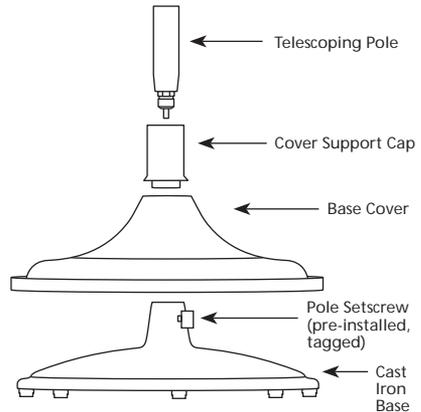

FIGURE 1
1. Slide the Cover Support Cap over the bottom of the Telescoping Pole. See Figure 1.
2. Insert the bottom of the Telescoping Pole through the Base Cover. See Figure 1.
4. Locate the Pole Setscrew (pre-installed, tagged) in the neck of the Cast Iron Base. See Figure 1.
5. Use an adjustable wrench to tighten the Pole Setscrew (pre-inserted, tagged) until it seats firmly against the Telescoping Pole. See Figure 1.
6. Lower the Base Cover over the Cast Iron Base. See Figure 1.
7. Twist the Cover Support Cap clockwise into the Cast Iron Base until it is tight. See Figure 1.